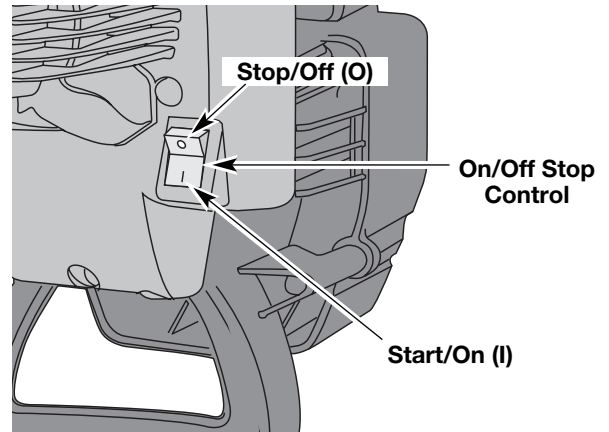

Fig. 6
NOTE: There is no need to turn the unit on. The On/Off Stop Control is in the ON (I) position at all times (Fig. 6).